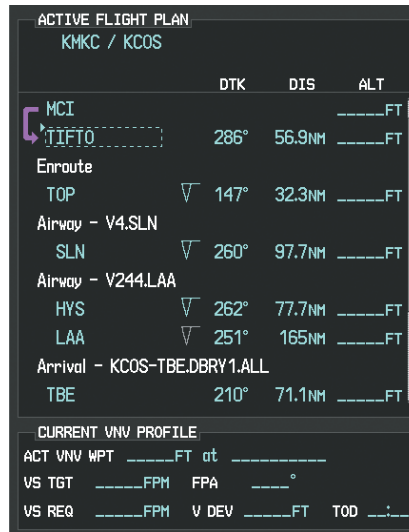

Figure 5-114 V4 is Loaded in the Flight Plan
I) V4 is now loaded into the flight plan as shown in Figure 5-114.